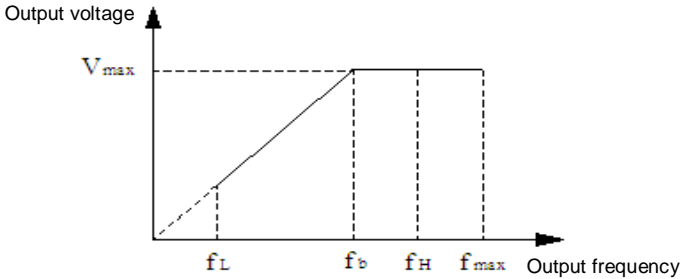

Figure 00-1 Schematic diagram of voltage and frequency
The maximum output frequency is the highest frequency allowed by the inverter, which is the benchmark for setting acceleration and deceleration time, as shown in the figure f_{max} below. The basic operating frequency is the minimum frequency corresponding to the highest voltage output by the inverter, which is generally the rated frequency of the motor, as shown in the figure below. The maximum output voltage V_{max} is the corresponding output voltage when the inverter outputs the basic operating frequency, which is generally the rated voltage of the motor; V_{max} : as shown in the following figure; f_H and f_L are defined as upper limit frequency and lower limit frequency respectively, as shown in Figure 00-1:
4. The relationship among maximum output frequency, upper limit frequency and lower limit frequency is shown in the above figure 00-1. Please pay attention to the order of magnitude when setting.